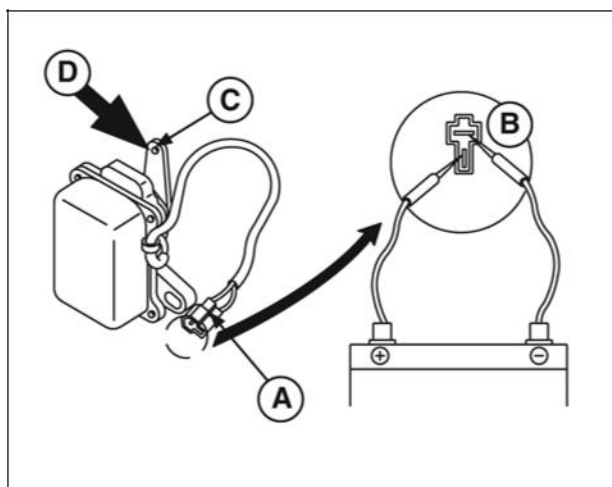

Figure 29
1. Disconnect harness at connector (A, Figure 29).
2. Touch test leads (B) to terminals of a known good 12 volt battery.
- Actuator lever (C) should quickly move the throttle to a wide open position (D).